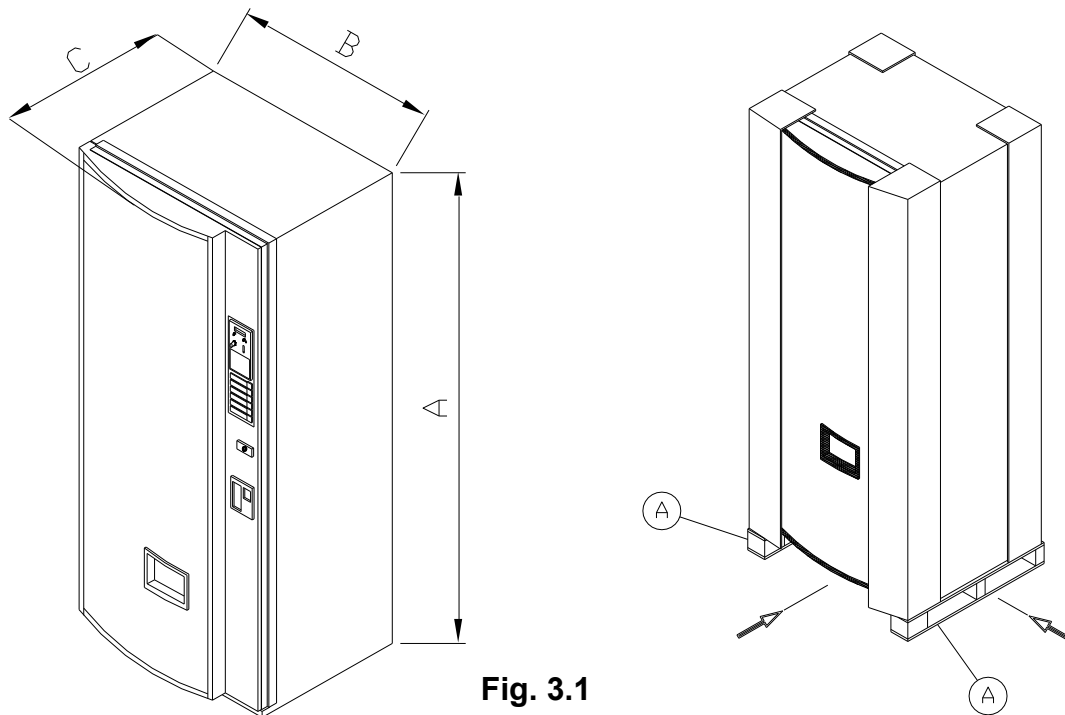

Fig. 3.1
- Use a trans pallet/lift truck with minimum carrying capacity of 400 Kg, the wooden bases (A) allow for gripping of the 4 sides of the vending machine (fig. 3.1)